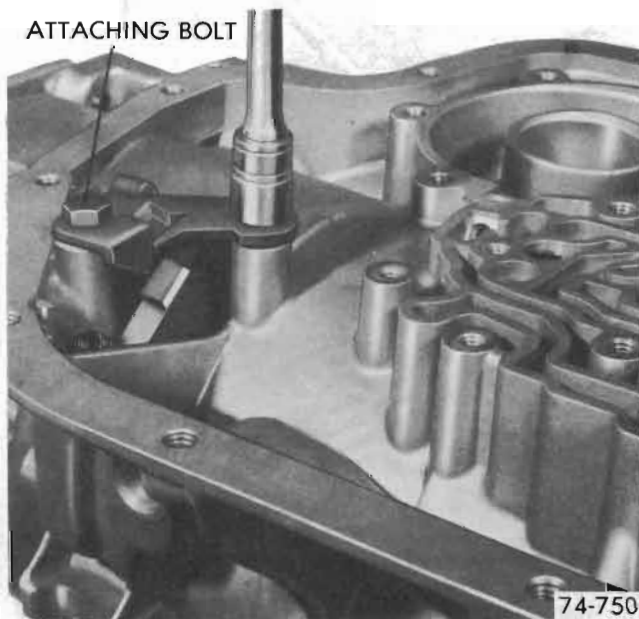

Figure 76-245
5. Install the parking lock bracket, guides over parking pawl, using two attaching bolts torque to 15- 20 lb.ft. See Figure 76-245.